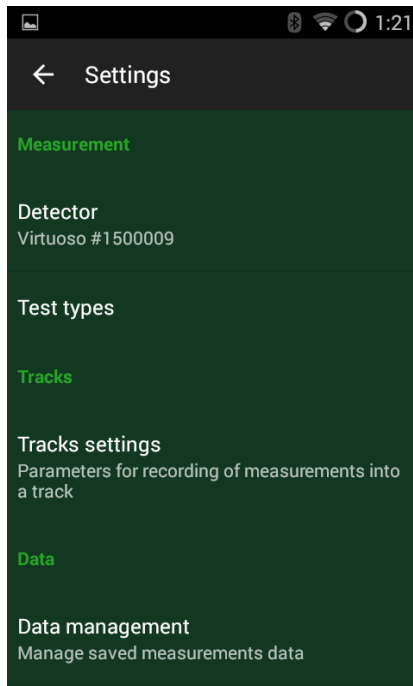

Figure 2.70 – Program setting
Button (2) opens a menu, wherefrom you can switch to the program settings (see Fig. 2.70), open information about the "VIRTUOSO" version (see "About the program"), or switch to a demo mode (see Section 2.12). This menu can also be opened by tapping the corresponding button (if available) of the Android-device.